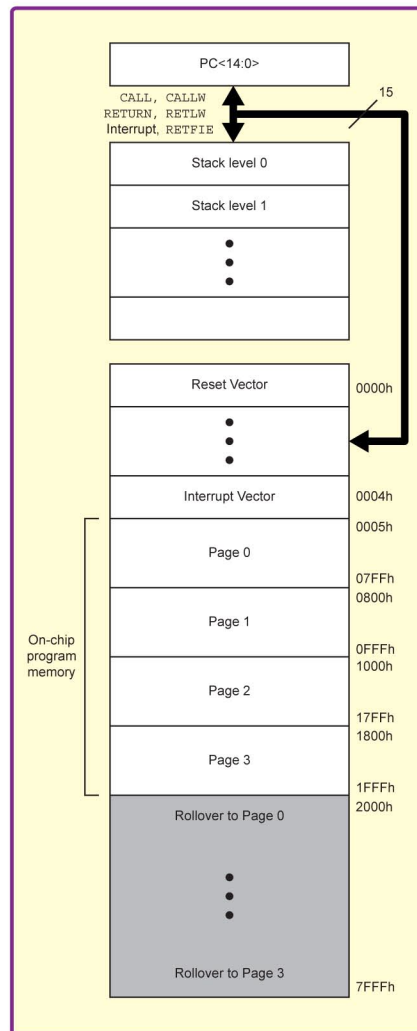

Fig.1. Program memory map and stack for PIC16F/LF1825/1829
Fig.1 shows the program memory map and stack for the PIC16F1829. You can see the program counter (PC) followed by the stack, which stores information about the active subroutines of the program. This is followed by the reset vector at 0000h (which is the same as 0x0000, both